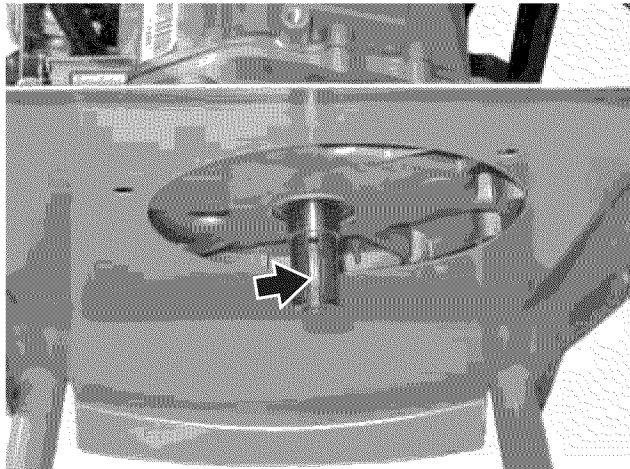

Figure 41 – Key and Crankshaft Keyway
4. Inspect the key and keyway on crankshaft (see *Figure 41*).